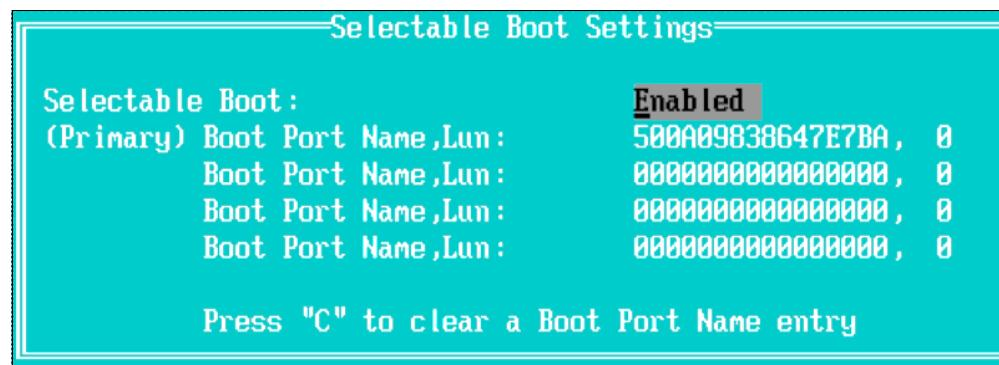

Figure 18-28 Enabling selectable boot in Selectable Boot Settings panel
8. Scroll to Selectable Boot as shown in Figure 18-28.